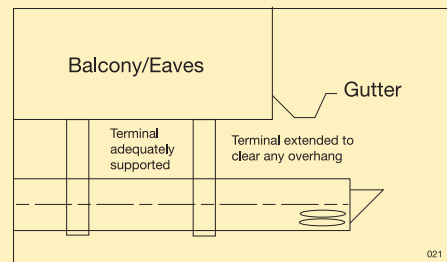

fig 2
**Note (fig 1):** Dimensions D, E and F can be reduced to 40mm without affecting boiler performance but we would advise deflectors for these small distances and also to ensure that the condense plume does not affect adjacent surfaces. Also in addition to dimension E the terminal can be extended as shown in the diagram (fig 2) to the maximum lengths on page 12.
**Note (fig 2):** It is important when fitting a plume management and balcony kit that the dimensions in table must be maintained in relation to both the air inlet as well as the flue outlet.